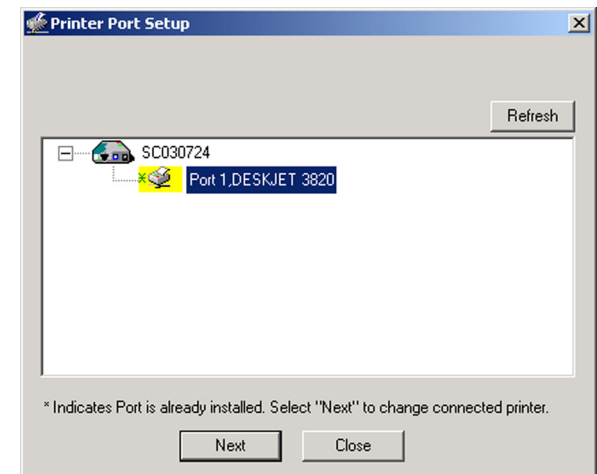

Figure 5-8: IP Address
9. The Printer Port Setup screen will appear, as shown in Figure 5-8, and list the PrintServer and the connected printers. Select a printer, then click **Next** to install the printer.